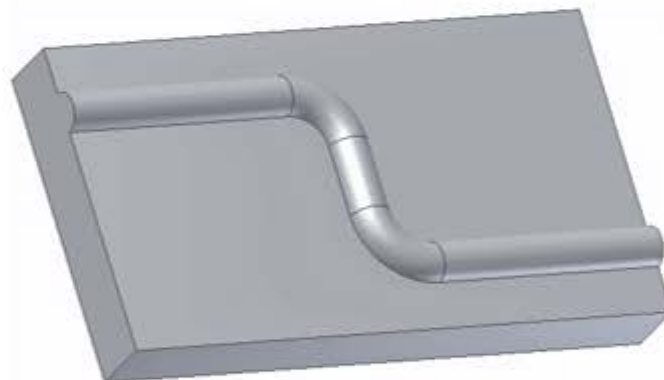

Figure 12–23
7. How many unconsumed sketches are required to create the sweep feature shown in Figure 12–23?